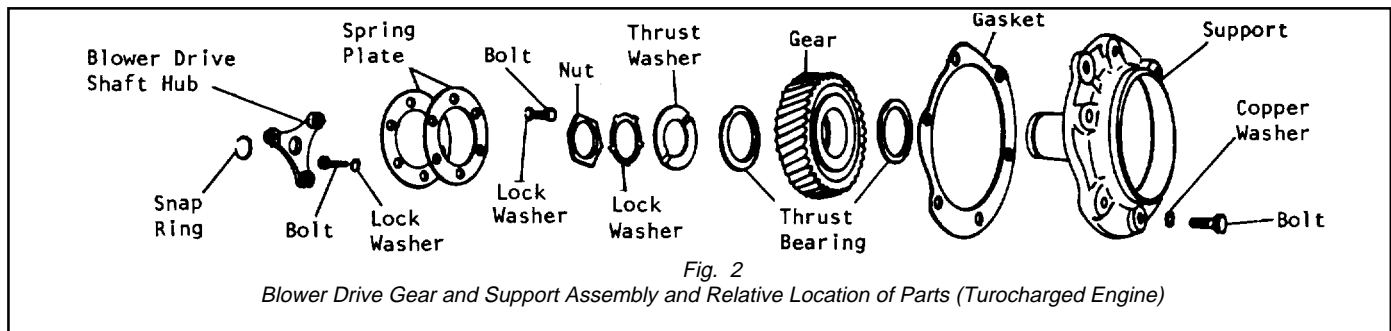

Fig. 2
Refer to Fig. 2, and disassemble as follows:
27.4 Assemble Blower Drive Gear and Support Assembly (Fig. 2)